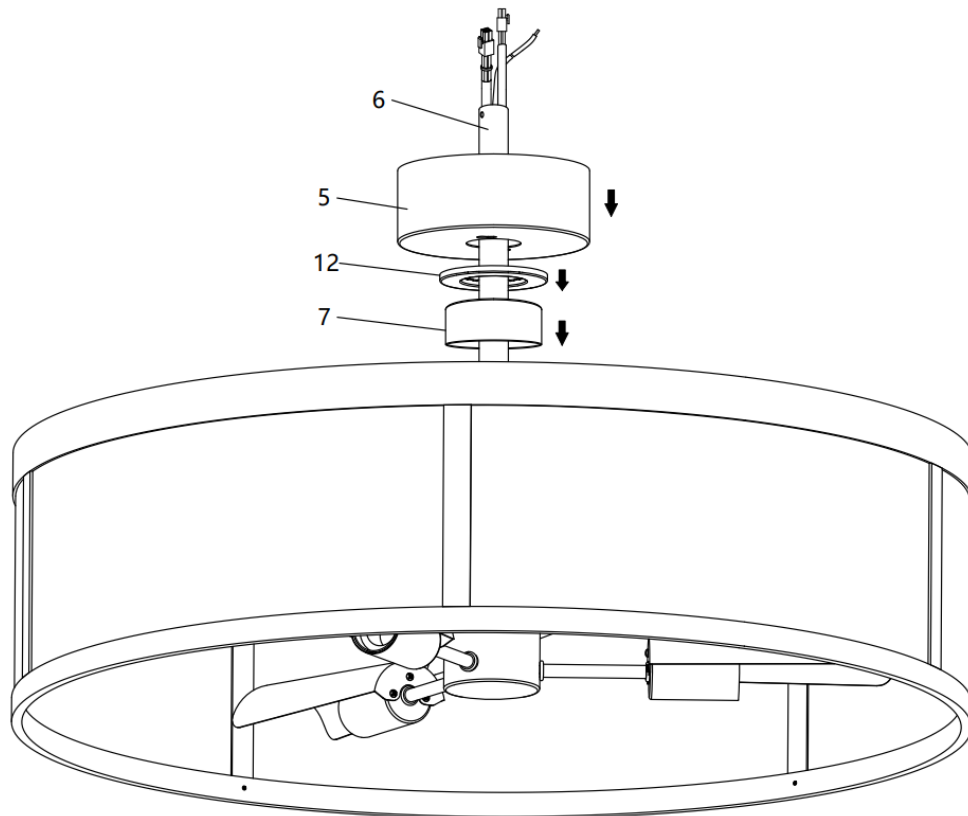

Fig. 5.5
6. Insert the Bolt and pin cover (7) onto the down rod (6) to cover the down rod coupling housing (8). (Fig. 5.5)
7. Insert the canopy (5) & canopy cover (12) over the down rod (6) and install the ball joint (2) and dowel pin (3) back onto the down rod (6) and secure by tightening the set screws (4). (Fig. 5.5 and Fig. 5.6)